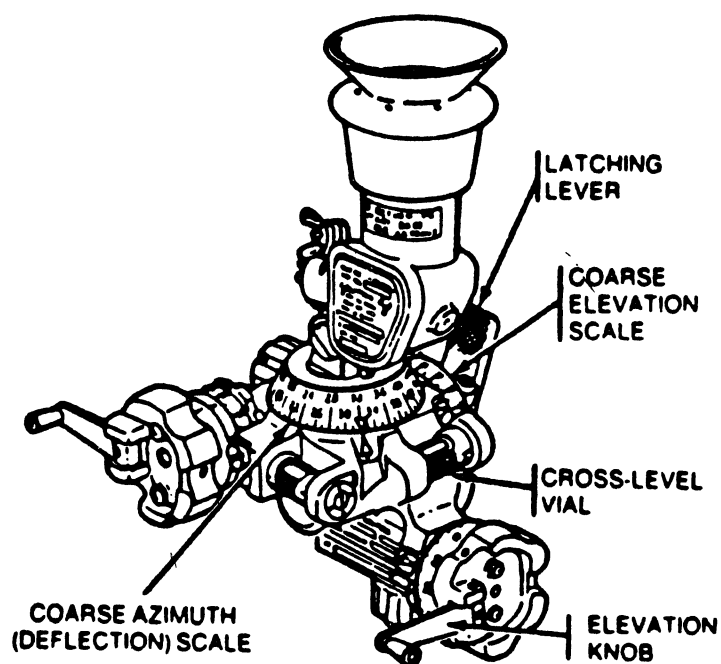

Fig 2-2. Center section of the M64A1 sight unit.
(1) The center section (fig 2-2) consists of a cross level vial, elevation knob, coarse azimuth (deflection) scale, coarse elevation scale, and a latching lever.